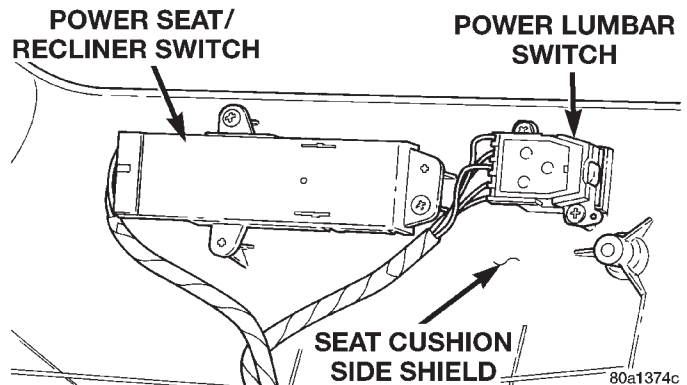

Fig. 3 Power Seat Switches Remove/Install
(1) Disconnect and isolate the battery negative cable.
(2) Using a trim stick or another suitable wide flat-bladed tool, gently pry the power seat and power recliner switch knobs off of the switch stems.
(3) Remove the three screws that secure the seat cushion side shield to the outboard seat cushion frame.
(4) Pull the seat cushion side shield away from the seat cushion frame far enough to access the power seat switch and power lumbar switch wire harness connectors.
(5) Unplug the wire harness connectors from the power seat and power lumbar switches.
(6) Remove the seat cushion side shield from the vehicle.
(7) Remove the two screws that secure the power seat switch to the inside of the seat cushion side shield (Fig. 3).